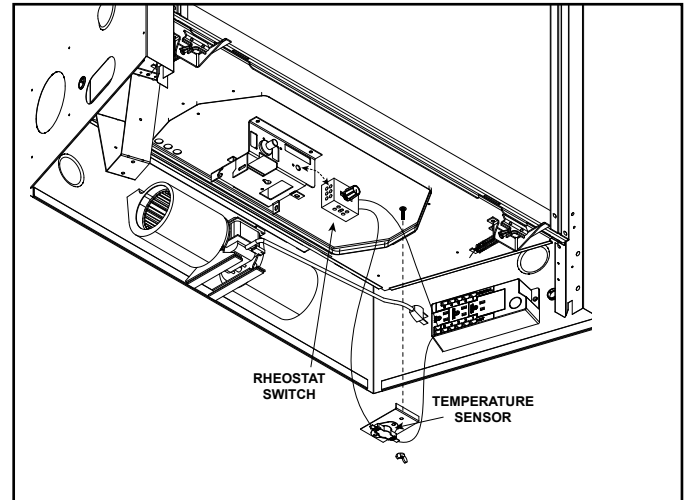

Figure 8.4 Fan Wiring with Rheostat
If the fan will not be installed for operation with a wall switch, the temperature sensor will need to be installed. See Figure 8.4 for location of the temperature sensor and fan control.
- Install rheostat in location as seen in Figure 8.4.